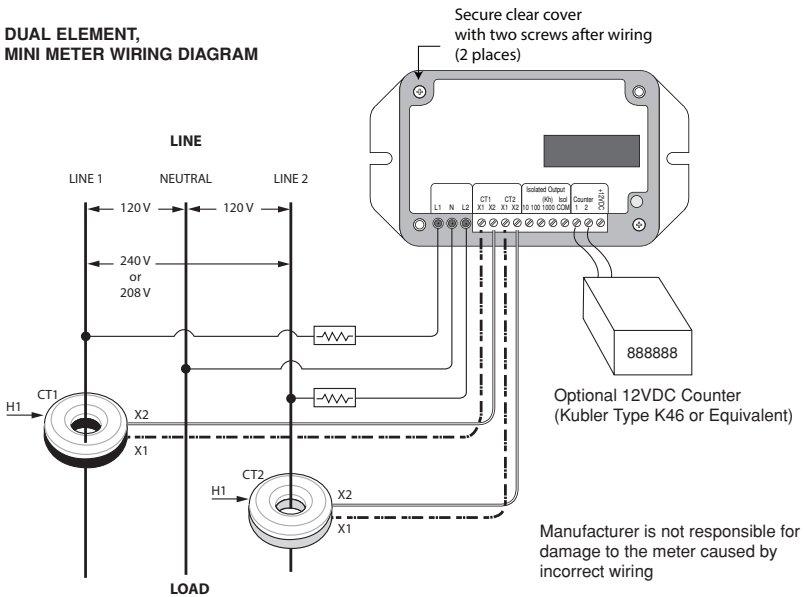

Figure 5: Dual and single element Mini Meter hookup diagram
5. Following all national and local electric codes, connect wires to appropriate locations in the load center. Wires should be tightened so that they are held snugly in place, but do not to over-tighten, as this may compress and weaken the conductor. See figure 5 for Mini Meter wiring diagram.
NOTE: Failure to install CTs in the correct orientation and on the correct phase will lead to inaccurate meter readings. The Mini Meter wiring diagram is shown in Figure 5.